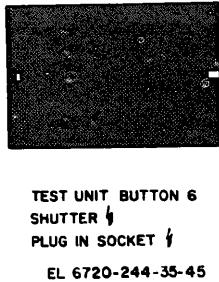

Figure 4-13. Electronic Flash synchronizing tolerance pattern.
(1) Depress button 6 on the test instrument, wind the shutter, and set the shutter speed dial to the electronic flash symbol (1/50 second).
(2) Release the shutter while observing the pattern plate (fig. 4-13). The two rectangles (one on each end of the plate) must be illuminated. One-half millimeter of the outer edge of the left rectangle must be obscured by the first shutter curtain. The rectangle on the right end of the pattern plate must not be obscured in any degree by the second shutter curtain. If these conditions are not met, proceed as follows:
(a) *Left pattern tolerance incorrect.* Position the adjusting eccentric (fig. 1-18), with tool No. 29 until 0.5 mm of the first curtain shows in the left rectangle of the pattern plate (fig. 4-13).